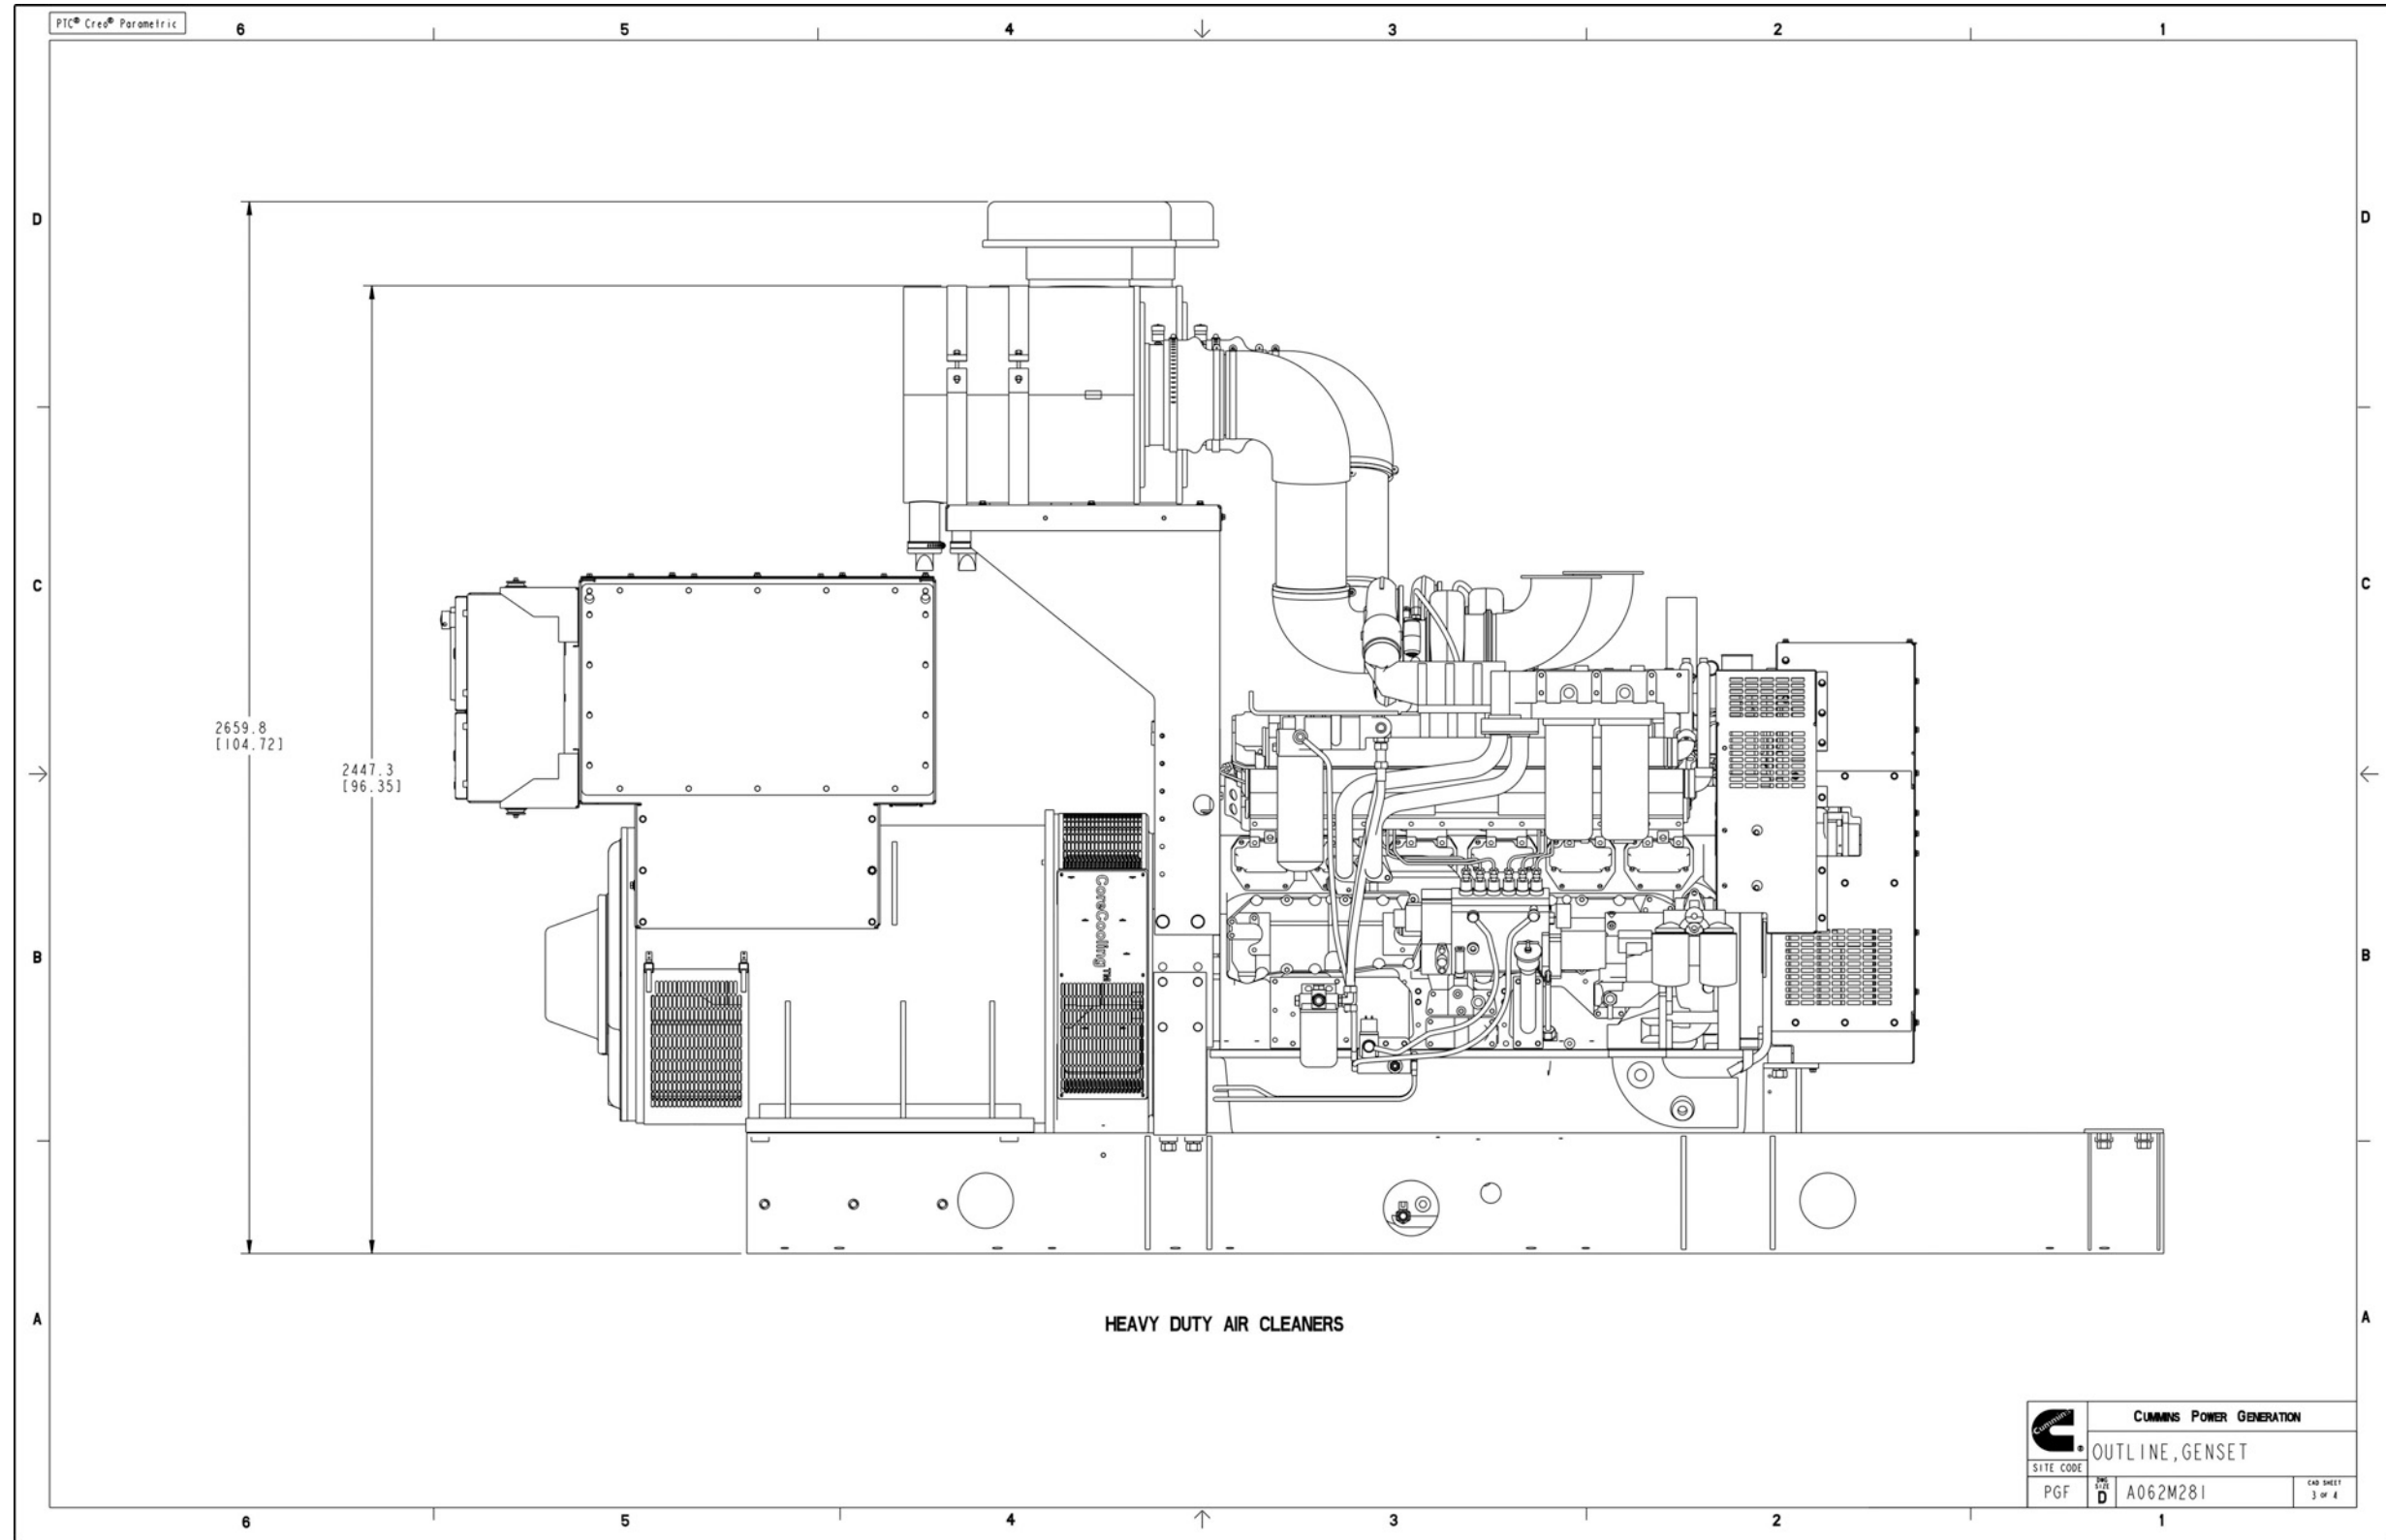

FIGURE 80. GENERATOR SET OUTLINE DRAWING (REMOTE RADIATOR) (SHEET 3)
- Figure 80. Generator Set Outline Drawing (Remote Radiator) (Sheet 3) 146